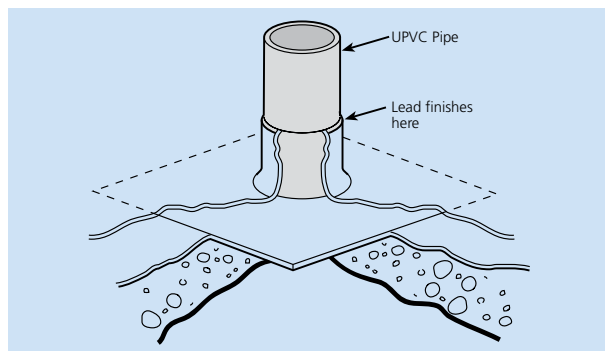

Fig. 65
- Position purpose-made weathering slate on open end of soil stack. Lay asphalt as normal, over baseplate and to upper rim of lead upstand around pipe. Feather this edge of the asphalt (Fig. 65).